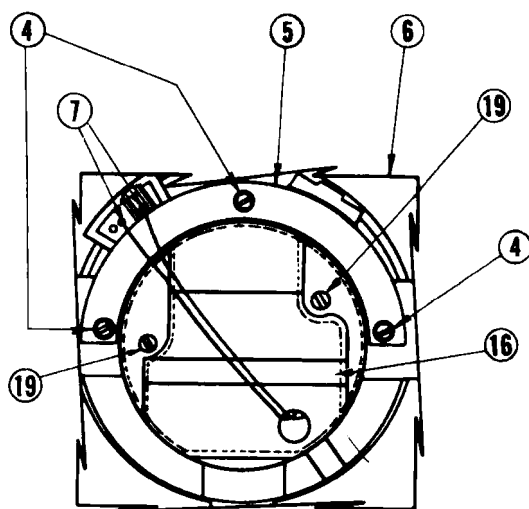

Figure 16. Dial mounted to housing.
Remove the three dial mounting-plate screws (item 4, figure 16) located on the underside of the housing. The complete dial assembly is now free and can be lifted from the top of the plastic telephone housing.
For inspection of dial pulsing operations, remove the two dial dust-cover screws (item 19, figure 16) and lift off the dust-cover. The dial assembly should not be removed unless replacement is necessary due to dial lamp failure or poor dial operation which cannot be corrected in the field. Proceed in the reverse order of the steps indicated above to replace the dial assembly.